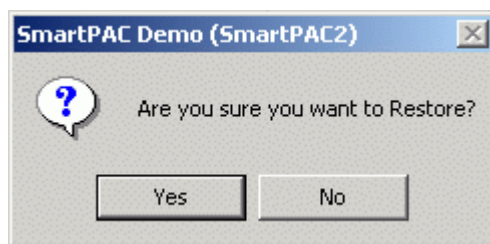

Figure 10. Restore Confirmation Window
2. Click on the *Restore All* button. The following confirmation window displays (see Figure 10).